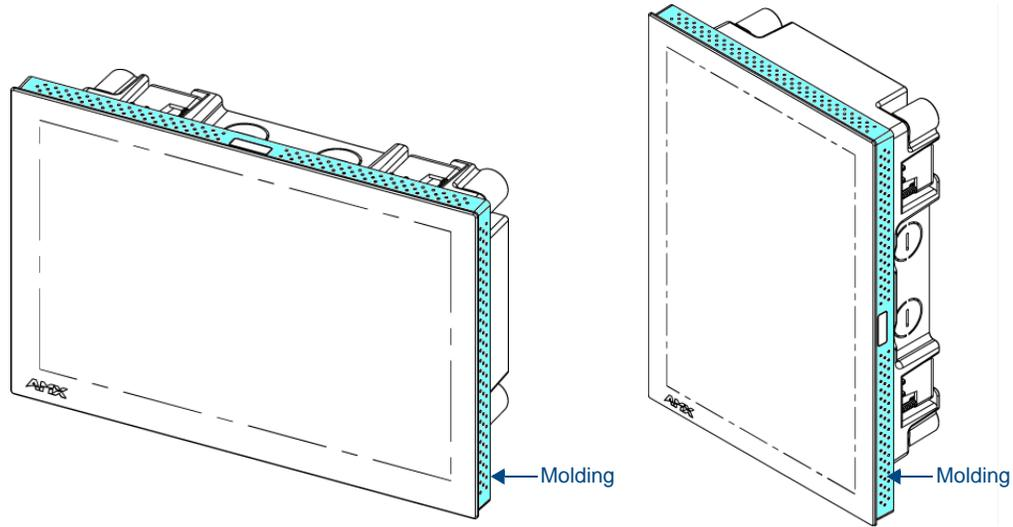

FIG. 23 MXD-1000 Molding (highlighted in blue)
1. The MXD-1000 has three rows of ventilation holes along the molding (FIG. 23):